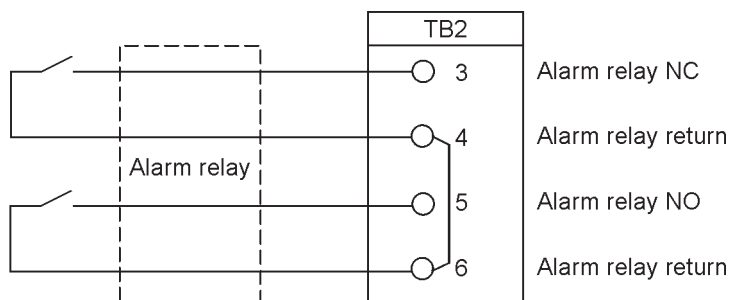
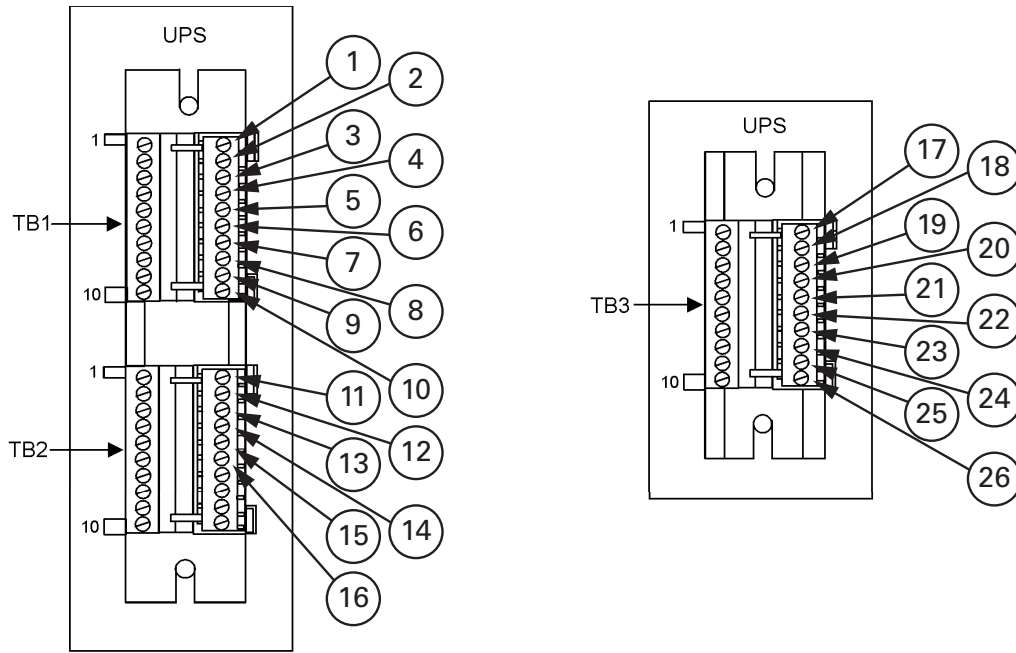
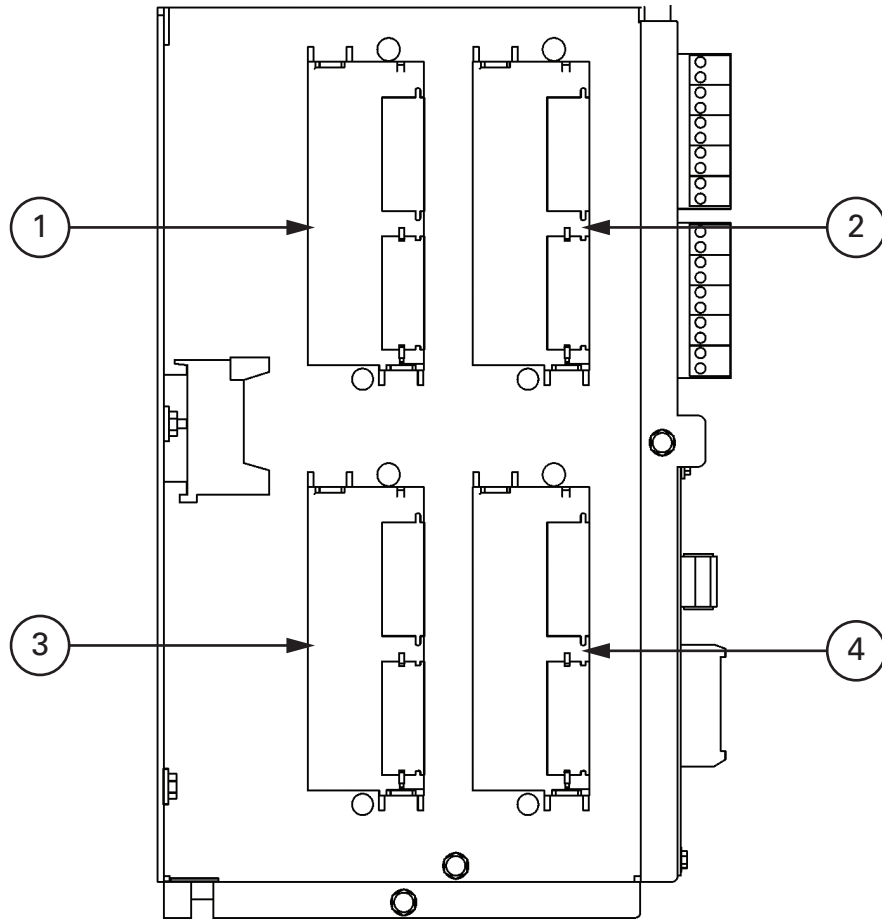

Figure 4-8. Typical alarm relay connection
Figure 4-10. Terminal blocks TB1, TB2, and TB3 connector assignments
Figure 4-12. X-Slot communication bays
7. To locate the appropriate terminals and review the wiring and termination requirements, see Section 3.2.3 on page 23, Table 4-1 on page 47, and Figure 4-8 through Figure 4-10.
For TB1, TB2 and TB3 connector assignments, see Figure 4-10 and for detail AA, see Figure . The X-Slot communication bays are illustrated in Figure 4-12.
5. Route and install the LAN, telephone, and other cables to the appropriate X-Slot cards. See Figure 4-9 on page 43 and Figure 4-12 for X-Slot location.